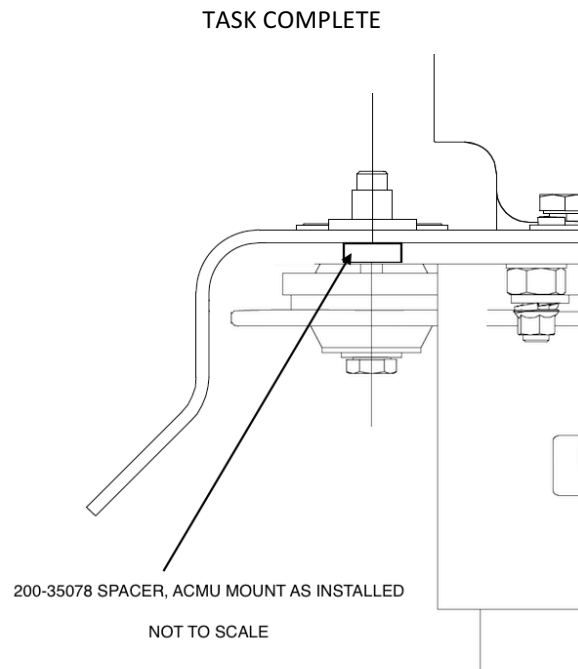

Figure 1
5. Install the SPACER, ACMU MOUNT (200-35078) between the ACMU vibration isolation damper and airframe mounting location. (See Figure 1)
6. Install appropriate fasteners to reattach the ACMU to the mounting location torquing the fastener to the appropriate value indicated in the installation instructions. (See Figure 1)